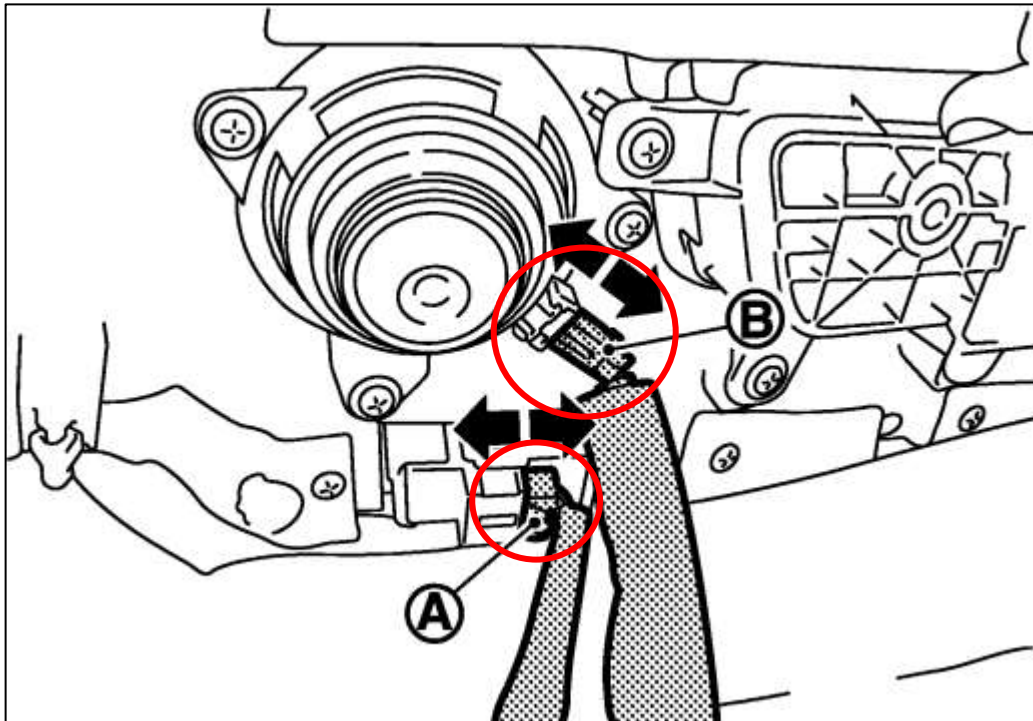

Figure 70
8. With the Door Panel disconnected, disconnect the electrical connectors as shown below. *Figure 70*